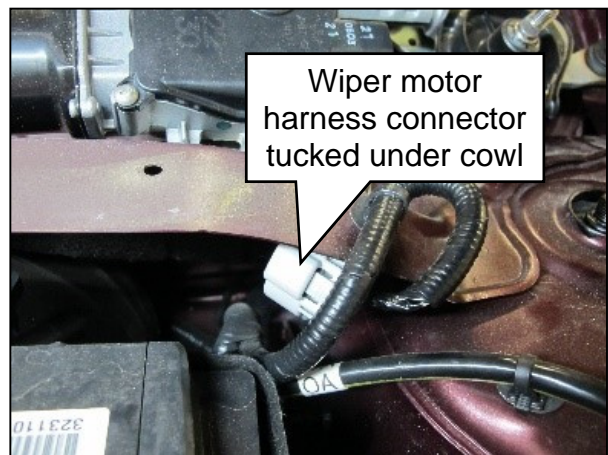

Figure 13
- Tuck the wiper motor harness connector under the cowl, as shown in Figure 13.